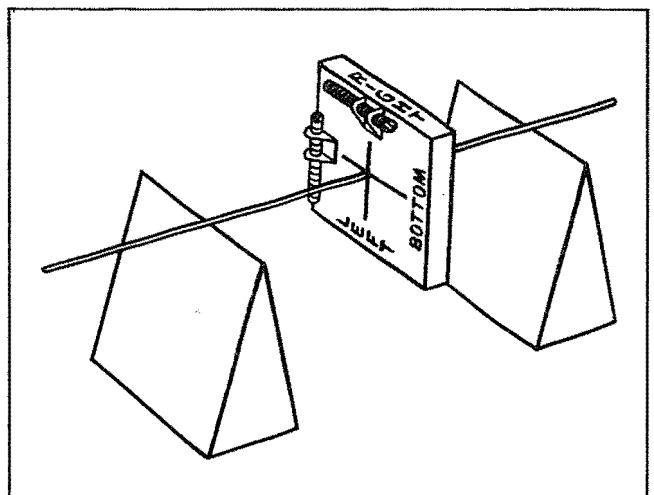

Figure 45
2. The next step is to balance the top against the bottom. This is accomplished by moving the weight, which governs the balance of the top and bottom, toward the top until the line, which divides the object into the top and bottom sections, is exactly vertical. (See figure 45.)